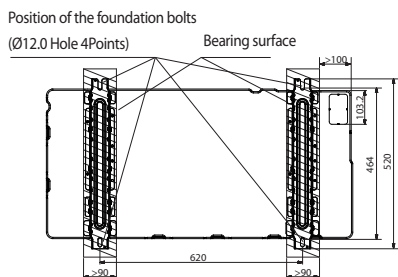

Figure 1
- ▶ As shown in Figure 1, to ensure the shadow part is on the bearing surface without suspension.
- ▶ As shown in Figure 1, the four installation footings shall be firmly fastened on the base platform by the bolts (preparing four sets of M10 bolts with fitful nuts and washer which are used on site)
- ▶ Please ensure the shadow part in Figure 1 is really installed on the bearing surface without any suspension.
- ▶ The ground base that is larger than the standing leg of the air-conditioner (90mm in width and 520mm in length) shall be used to support the air-conditioner (See Figure 1), and the rubber mat shall be fully placed on the whole bearing surface.
- The installation mode mentioned above shall ensure that the shadow part in Figure 1 is really on the installation surface.